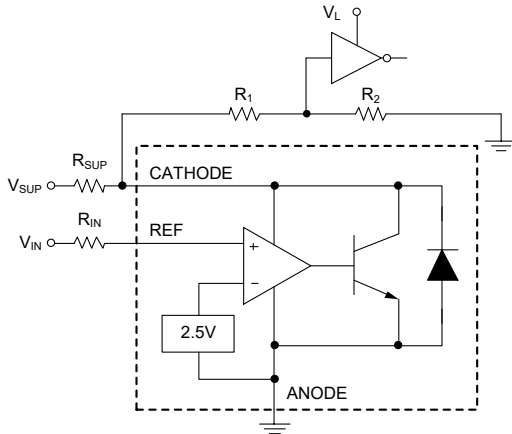
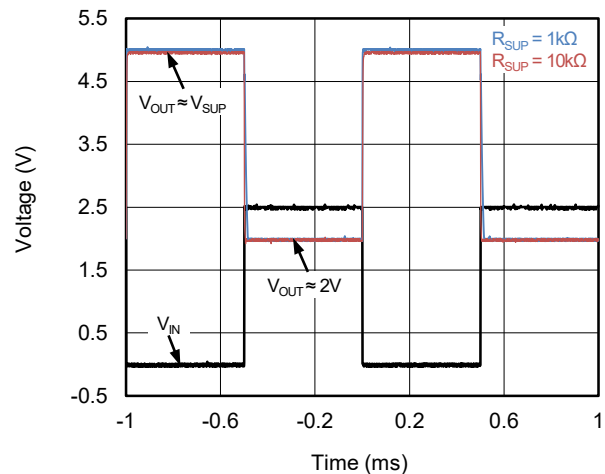

Figure 3. Comparator Application Schematic
Figure 4. Output Response with Various Cathode Current
As shown in Figure 3, the SGM431x is always used as a comparator with 2.5V integrated reference in application, for this design, the parameters are listed in Table 1. The REF pin voltage is compared with reference inside and is amplified. Also, the SGM431x responds fast if the operation current  $I_{KA}$  is large enough. In Figure 4, it is clear to see that the output response with  $R_{SUP} = 1k\Omega$  is much faster than  $R_{SUP} = 10k\Omega$ . The maximum cathode current of  $I_{MIN}$  is 0.7mA, any cathode current below this value will cause a low response (low open-loop gain) for the application of comparator.
The input resistance should be less than 10k $\Omega$  in order to minimize the voltage drop between  $V_{IN}$  and  $V_{REF}$ . The readability of the logic output of the comparator should be guaranteed so that it can be received by the next stage. In Figure 4, the  $V_{IL}$  of the comparator logic is 2V, which is sufficient for a 5V supply voltage. However, for the logic stage which is powered by 1.8V or 3.3V, the  $V_{IL}$  is hard to be figured out. To accommodate this, a voltage divider should be taken into account. Due to the Open-Collector (OC) output stage, the  $V_{IH}$  is equal to the voltage of its power supply. When the voltage divider is used to attenuate  $V_{IH}$ , please make sure that the sum of  $R_1$  and  $R_2$  is greater than the resistance  $R_{SUP}$  to the power supply.